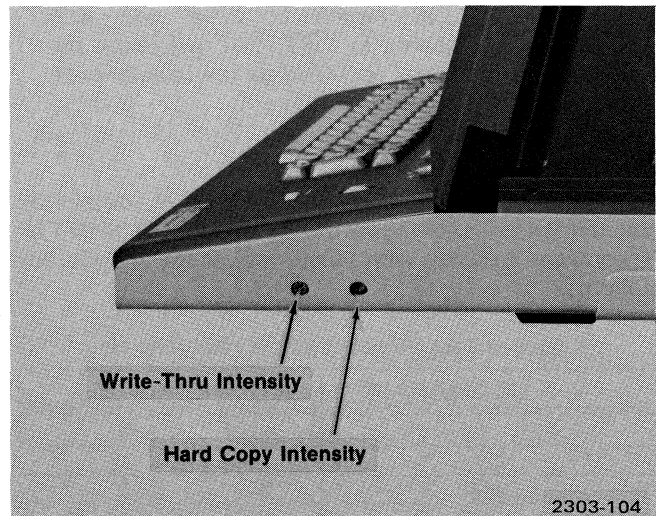

Fig. 4-25. Intensity adjustments on keyboard.
g. The Write-Thru intensity adjustment is a screw-driver adjustment located to the right of the keyboard (Fig. 4-25). While in the Write-Thru Mode, it is adjusted for a non-storing display. It is normally adjusted by the operator under operating conditions.